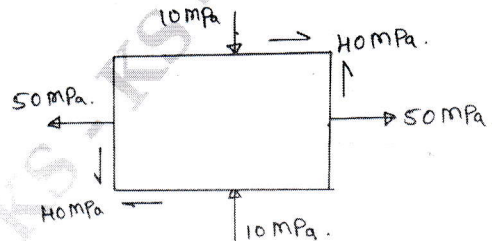

Fig. Q2 (b)
b. A point in a structural member subjected to plane stress is shown in Fig. Q2 (b). Determine the following :